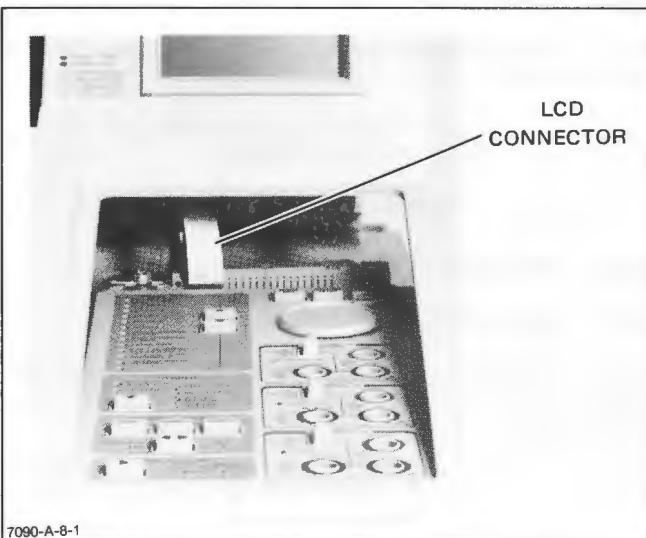

Figure 5-3. LCD Connector
- c. Gently lift the rear of the top cover until the liquid crystal display (LCD) connector is accessible. See Figure 5-3.